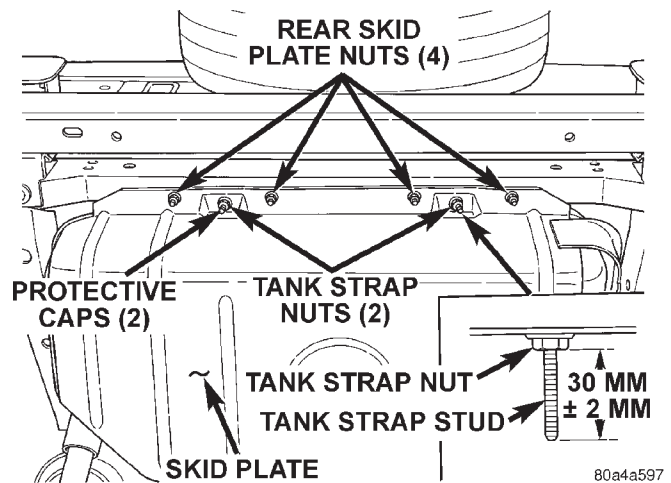

Fig. 36 Fuel Tank Mounting Nuts—Rear
(12) Remove four skid plate-to-body nuts at rear of tank (Fig. 36). **Do not loosen tank strap nuts (Fig. 36).**
(13) Lower the tank assembly.
(14) If fuel pump module is to be removed, refer to Fuel Pump Module Removal/Installation.
(15) Disconnect fuel filler hoses at tank. Before disconnecting, mark and note the hose rotational position in relation to tank fittings.
(16) Using an approved portable gasoline siphon/storage tank, drain fuel from tank. To drain fuel, position drain hose into vent fitting (smallest of 2) on side of tank.
(17) To separate tank from skid plate, remove two protective caps at tank strap studs (Fig. 36) and remove tank strap nuts.
(18) Remove both straps and remove tank from skid plate.
(1) Place fuel tank into skid plate. Wrap straps around tank with strap studs inserted through holes in skid plate. Tighten strap nuts to attain 30 mm (± 2 mm) between bottom of nut to end of strap stud (Fig. 36). **Do not over tighten nuts.**
(2) Install two protective caps to tank strap studs.
(3) Connect fuel filler hoses at tank. Tighten hose clamps.
(4) Raise skid plate/fuel tank assembly into position on body while guiding filler hoses.
(5) Install 7 skid plate mounting nuts. Tighten to 16 N·m (141 in. lbs.) torque.
(6) Remove tank jacking device.